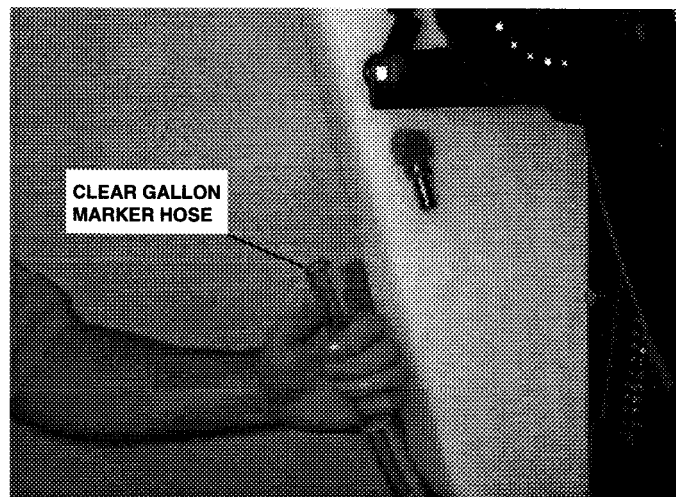

Fig. 16
- a. To drain leftover cleaning solution, place extractor over a drain sink or floor drain, pull clear gallon marker hose off hose barb and drain. (Figure 16)